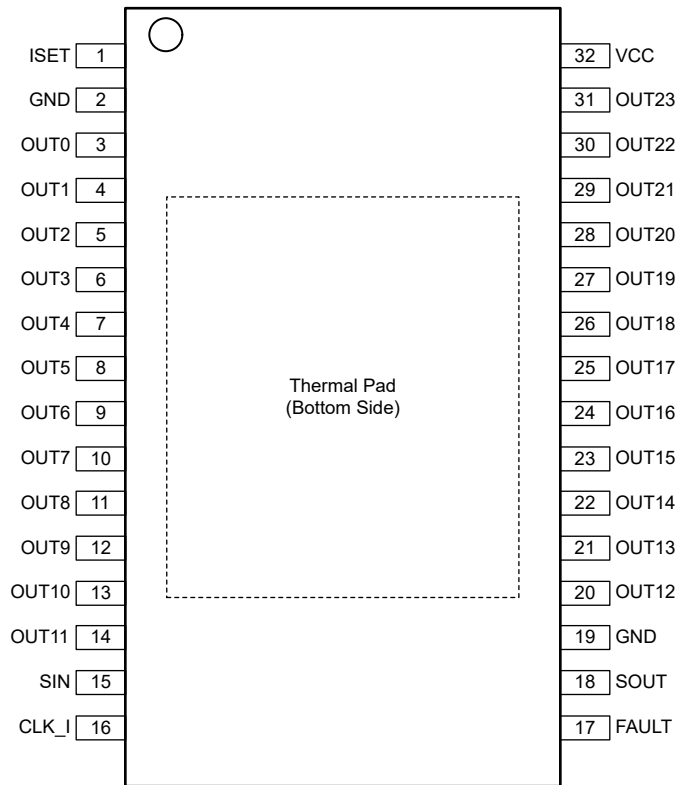

Figure 4-2. Pin Diagram (HTSSOP (32) Package)
4.2 HTSSOP (32) Package
Figure 4-2 shows the TLC69624-Q1 and TLC69634-Q1 pin diagram for the HTSSOP (32) package. For a detailed description of the device pins, see the *Pin Configuration and Functions* section in the TLC69624-Q1 and TLC69634-Q1 datasheet.